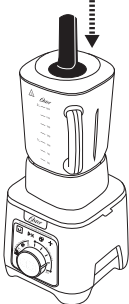

Fig. 7
1. With the blender on low speed, insert the tamper through the lid's opening. Use caution to avoid the blades. (Fig. 7)